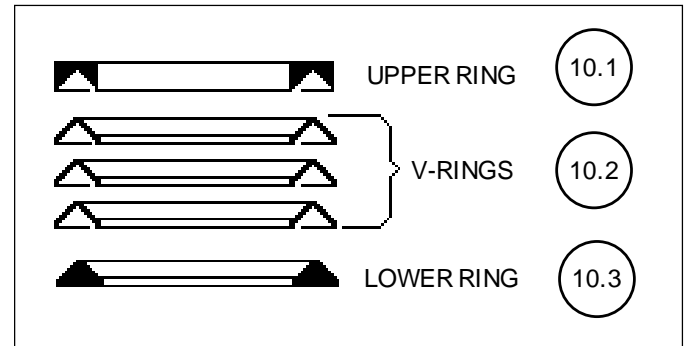

Figure 6: Packing
13. For TFE V-ring packing (**Standard Construction**) slip new V-ring packing (10.1) (10.2) (10.3) over threaded end of stem (4) as indicated in figure 6. **DO NOT INVERT PACKING RINGS (10).**